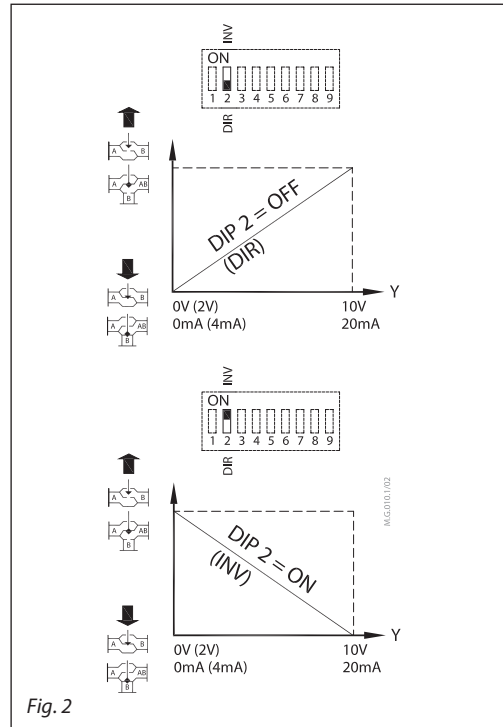

Fig. 2
**DIP2: DIR/INV – Direct or inverse acting selector** (Fig. 2):